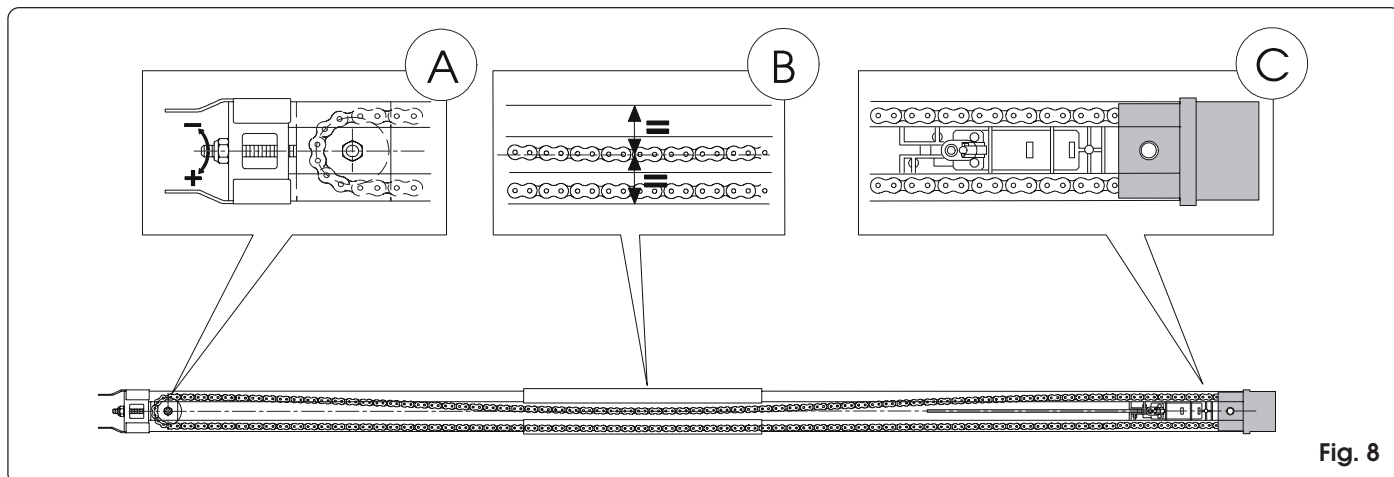

Fig. 8
- 5) Place the sliding guide on its side (fig. 8)
- 6) Push the carriage near the drive coupling unit (fig. 8 ref. C).
- 7) Adjust the tensioner (fig. 8 ref. A) so that the central part of the loop, formed of the upper section of the chain, coincides approximately with middle of the sliding guide (fig. 8 ref. B)